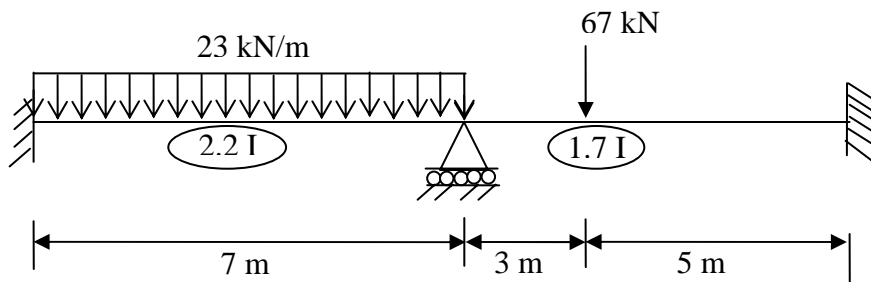

Fig.3
5. Analyse the continuous beam using Flexibility method, shown in Fig.3, and draw shear force and bending moment diagrams. Assume constant EI throughout the beam. Locate and find the distances of the points of contra-flexure from supports. Draw elastic curve. [15]